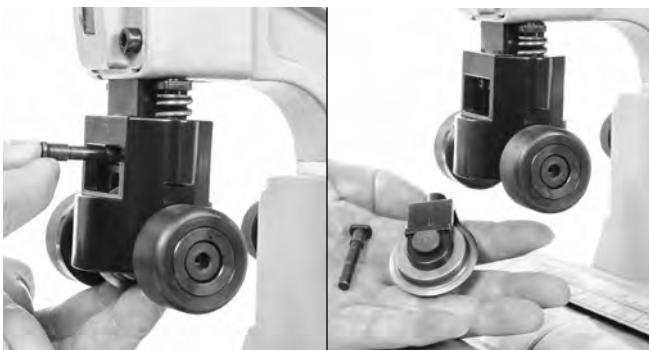

Figure 14 – Removing Wheel Holder
1. Remove the link pin. The wheel holder will drop free (*Figure 14*).